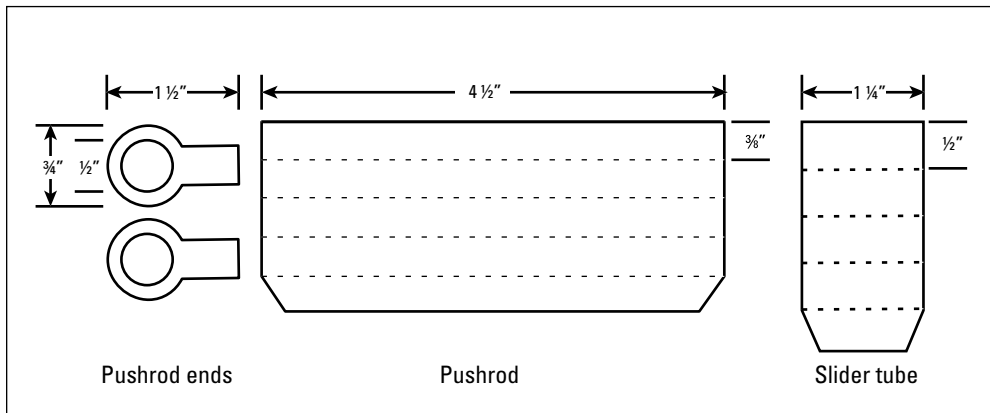

Figure 12-7:
1. Mark and cut out the parts for the slider tube and pushrod (see Figure 12-7).